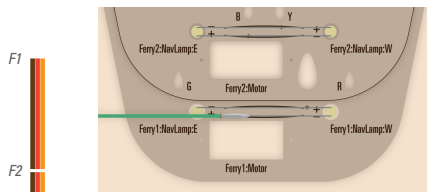

Fig. 4.1
- STRIP 1/2" from one end of each of the (4) loose colored wires (Red, Green, Yellow, Blue).
- LAY exposed green wire parallel with lower 3mmLED foot 'span' (Fig. 4.1), placing so that insulation begins with marked asterisk (*).